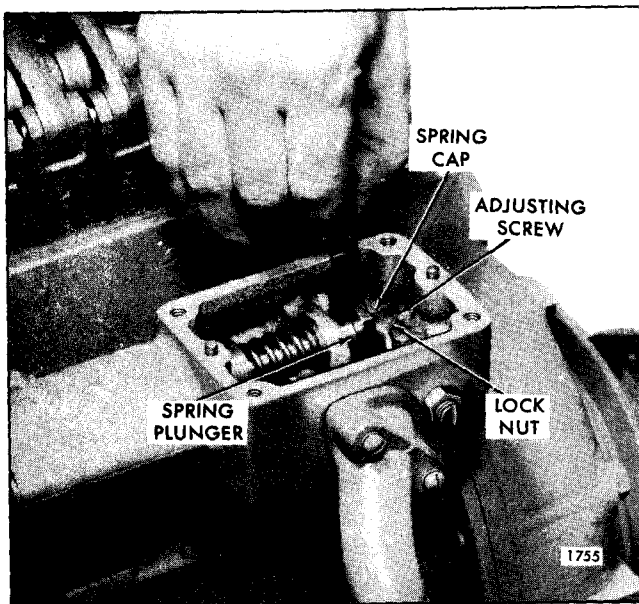

Fig. 1 - Adjusting Gap (Single Weight Governor) using Tool J 5407
6. Check the gap between the low-speed spring cap and the high-speed spring plunger with gage J 5407 (.170") as shown in Fig. 1.